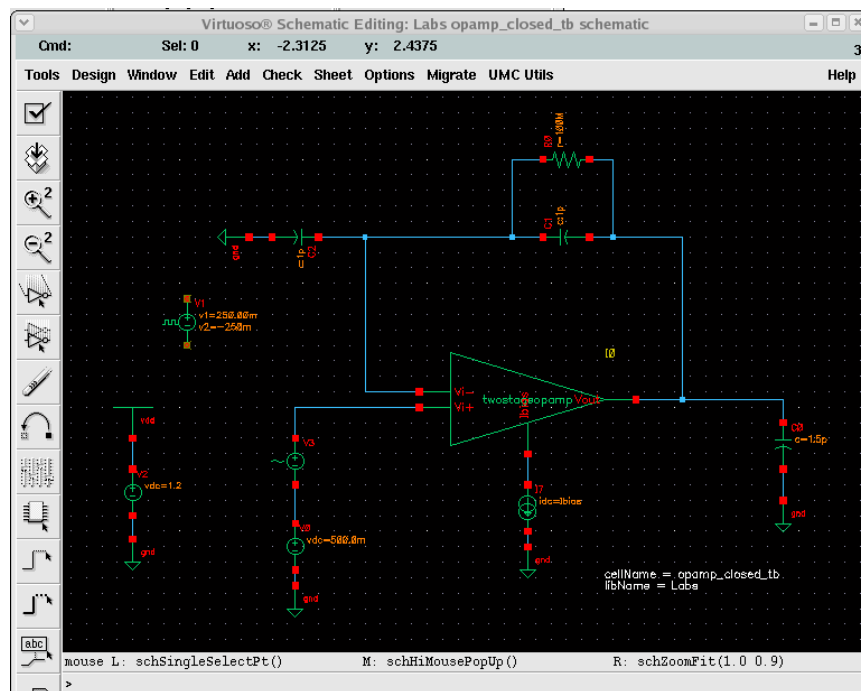

Figure 11: Closed loop configuration.
5. Make a new closed-loop test bench. Close the feedback loop (fig. 11) and find $A(s)$.